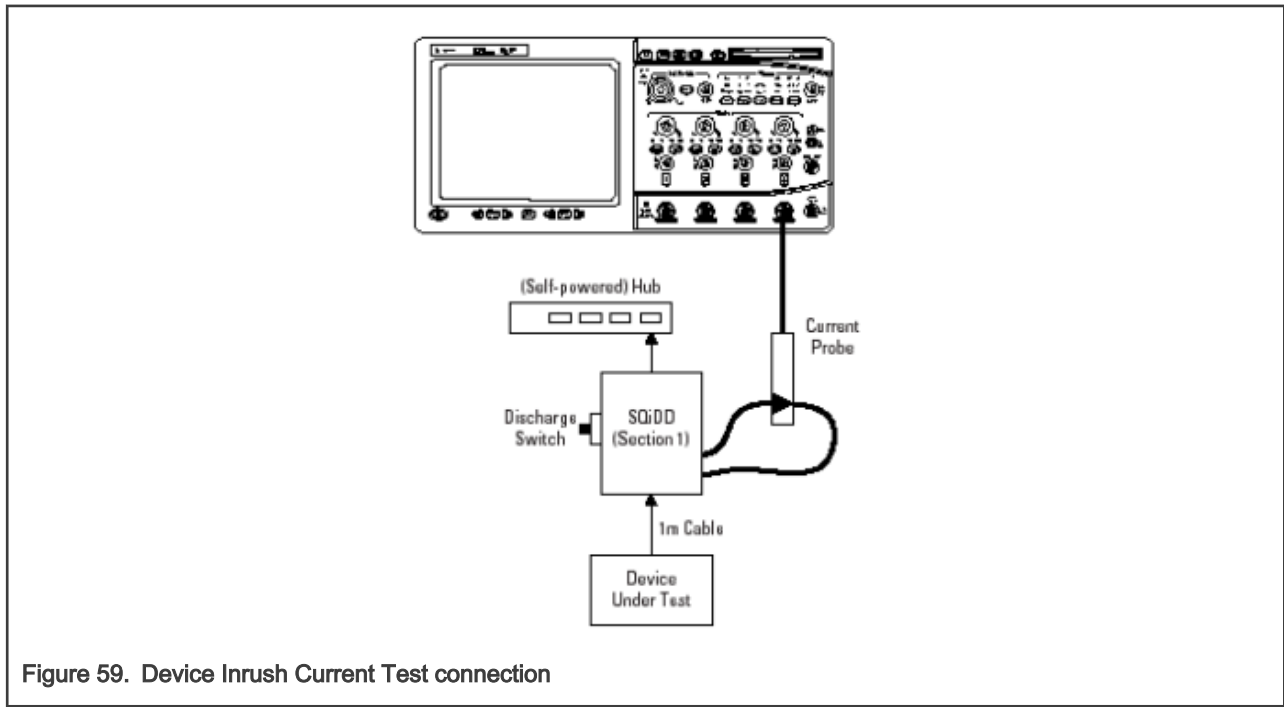

Figure 59. Device Inrush Current Test connection
2. Connect the equipment and test fixture, as shown in Figure 59. Use the current probe to capture the **Vbus** current waveform. Ensure that the probe direction is the same.